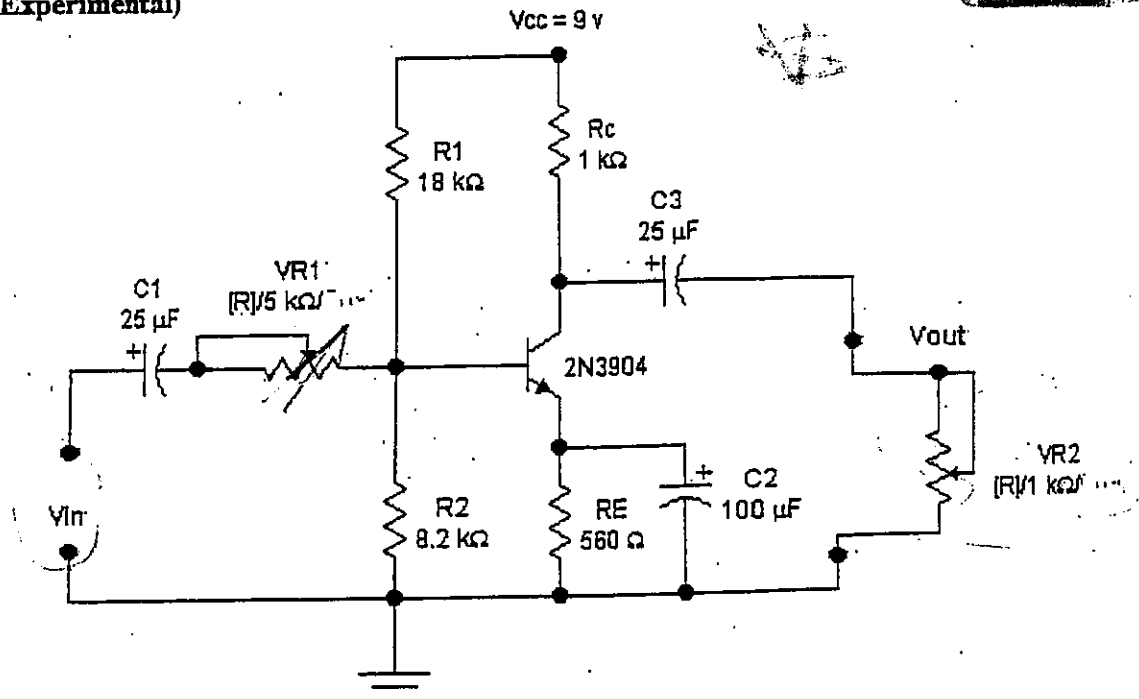

Figure 7.3
- 1- a) Connect the circuit of Figure 7.3.
- 7- Connect the  $1k\ \Omega$  potentiometer across the output terminals, as shown in Fig 7.3.
- 1- Set up the circuit of Figure 7.3 using (Electronics Workbench Software).